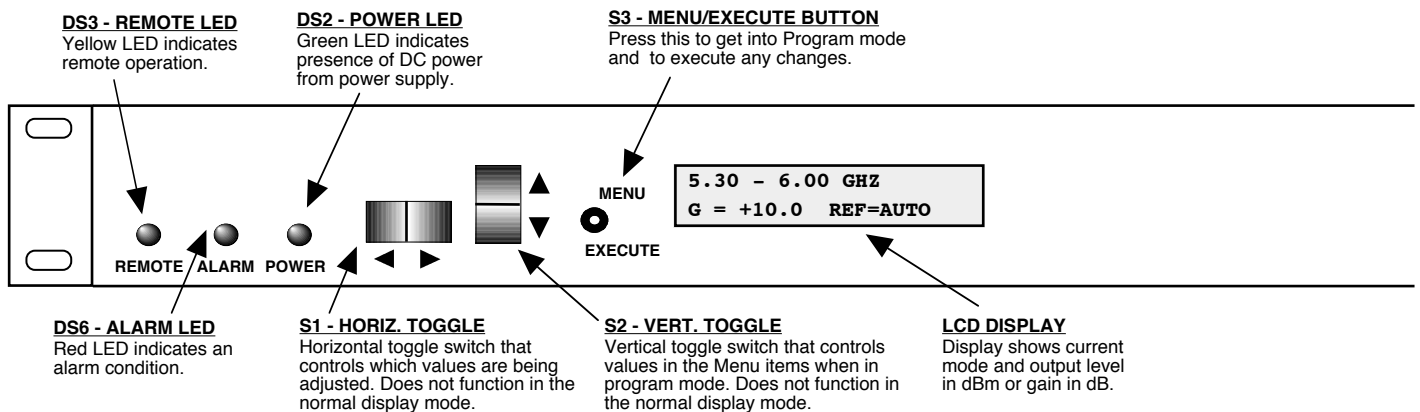

FIGURE 2.2 3116-5360# Front Panel Controls and Indicators
Figure 2.2 shows the front panel controls and indicators.
6. Be sure DS2 (green, DC Power) is on and DS6 (red, Alarm) is off (Figure 2.2).
Alarm indications appear on the LEDs (see Figure 2.2).